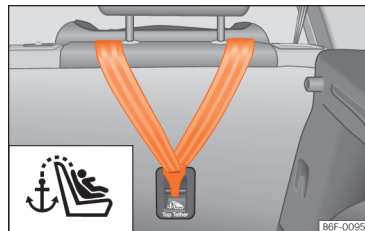

Fig. 41 Rear part of the rear seats: securing rings for the Top Tether belt.
Child seats with a Top Tether system are fitted with an additional belt for fastening to an anchor point in the vehicle. This anchor point is located on the rear of the rear seat backrest (identified with the symbol ) and provides better retention >>> Fig. 41.
- Slide the belt and secure it properly with the anchor on the rear seat backrest >>> Fig. 41.